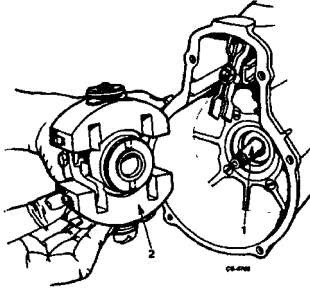

Figure 9. Installing Flyweight Assembly
1. Install reconditioned flyweight assembly to camshaft (Figure 9). Install spacer shim and secure to camshaft with slotted cylindrical nut. Use SE-2344 and SE-2339 rebuild tools. Torque nut to specifications.